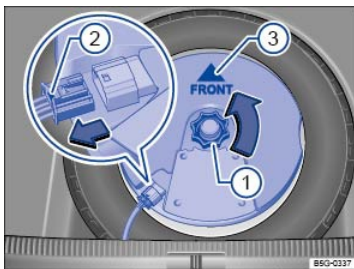

Fig. 145 Under the luggage compartment floor: Subwoofer (if equipped).
- Unscrew the handwheel ⇒ Fig. 145 ⓘ in a counterclockwise direction (arrow).
- To release the electrical connector, press and hold the center tab down with one hand ②.
- Reinstall the subwoofer carefully back into the recess. The tip of the arrow symbol FRONT on the subwoofer ⇒ Fig. 145③ must point toward the front of the vehicle
- Insert the connector ② into the socket (in the opposite direction of the arrow) until it clicks into place.
- Turn the handwheel ① clockwise to secure the subwoofer.